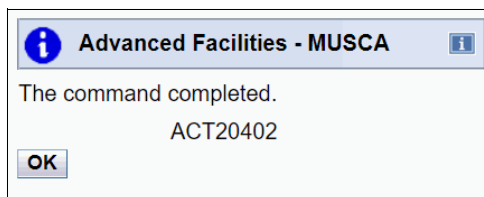

Figure 6-16 OSA/SF on HMC: Validate window value with success
12. If all of the parameters are entered correctly, a window as shown in Figure 6-16 is displayed.